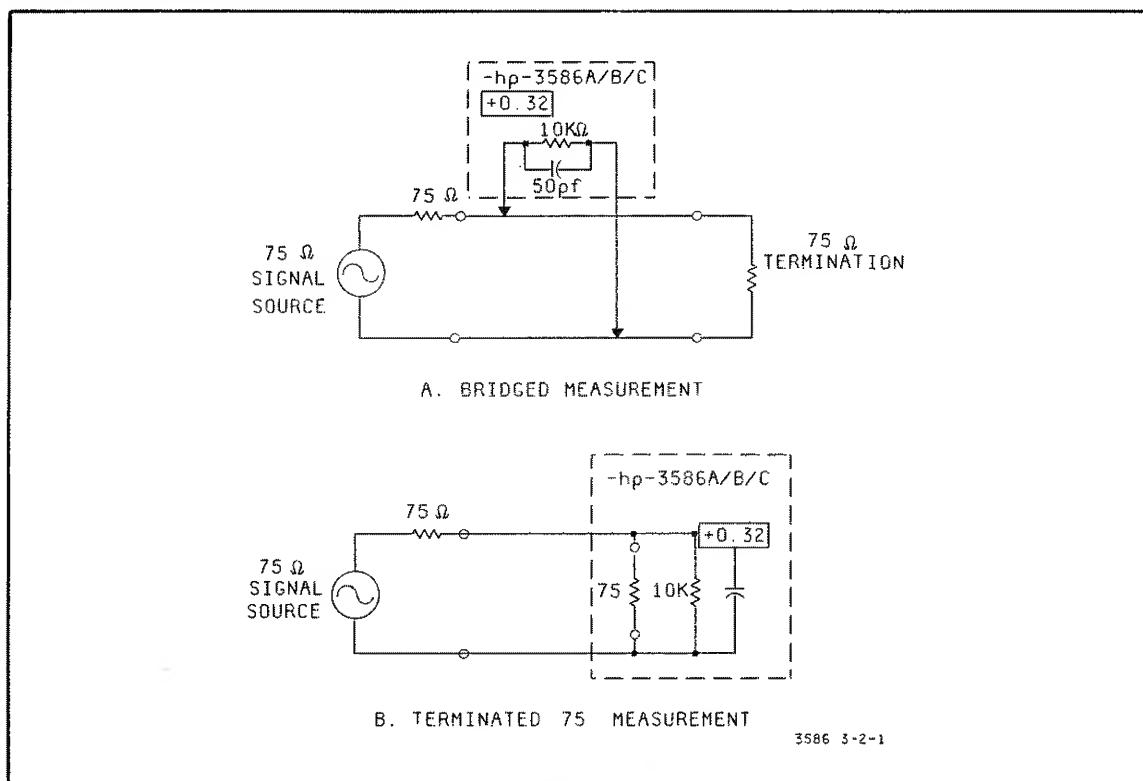
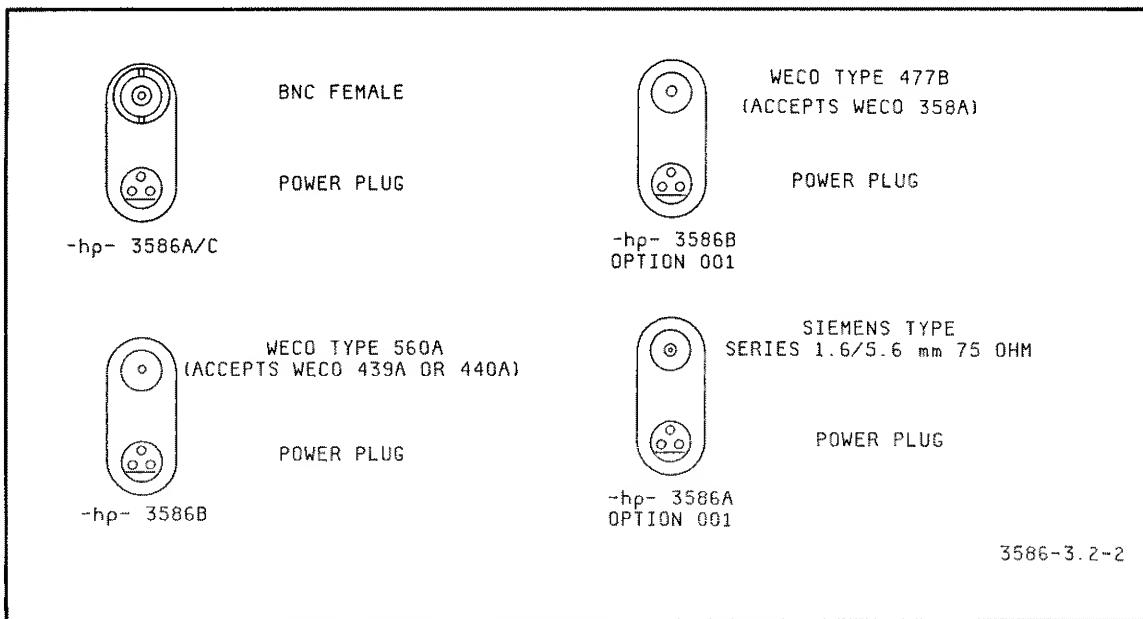
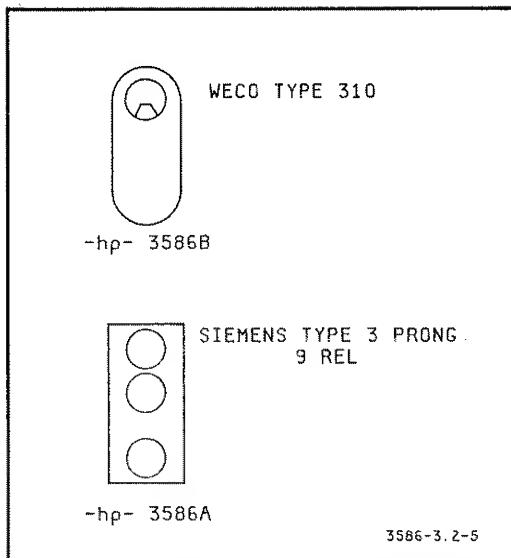

Figure 3-2-1. 75 Ohm Input Measurements.
Figure 3-2-2. Connectors For The 75 Ohm Input.
Figure 3-2-5. Connectors For The 600 Ohm Input.
**3-2-12.** This is an unbalanced input which is calibrated to read absolute power levels referenced to 75 ohms. An input level of .274V, which is 1mw into 75 ohms, causes an amplitude level reading of 0dBm. Either  $10k\Omega||50\text{pf}$  or terminated measurements may be made using this input (see Figure 3-2-1). When the 75 ohm impedance is furnished by the signal source circuitry, the  $10k\Omega||50\text{pf}$  measurement mode is selected. The terminated or 75 ohm input is used whenever the signal source circuitry must be terminated in 75 ohms. All of the various connectors used on this input are illustrated and identified in Figure 3-2-2. If desired, an active probe can be connected to this input. On the 3586C, the 50Ω input operates identically to the 75Ω input including the  $10k\Omega||50\text{pf}$  capability.
**3-2-22. Probe Power Jack.** The probe power jack, located just below the 75 ohm input, is compatible with several -hp- Active Probes. A pin out of the power jack is given in Figure 3-2-2. Two probes recommended for use with this instrument are the -hp- 15580 and -hp- 15578A. If a probe with an output impedance of 50 ohms is being used, enter an offset of +1.58dB to compensate for the mismatch. On the 3586C, simply select the  $50\Omega$  input.
3-2-30. This is a balanced input which is calibrated to read absolute input levels across 600 ohms. One milliwatt into  $600\Omega$  (which is .775V), causes an amplitude level reading of 0dBm. Either BRIDGED or terminated measurements may be made using this input (see Figure 3-2-1). When the 600 ohm impedance level is furnished by the signal source circuitry, the BRIDGED measurement mode is selected. The terminated or 600 ohm input is used whenever the signal source circuitry must be terminated in 600 ohms. All of the various connectors used on this input are illustrated and identified in Figure 3-2-5.